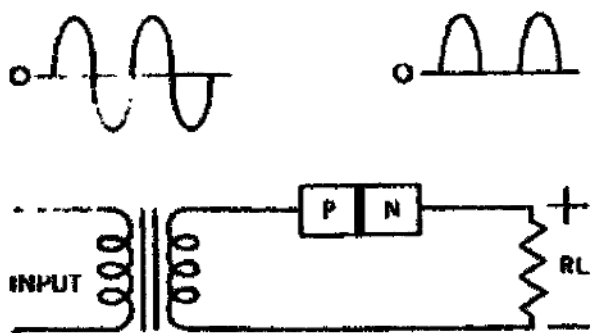

Figure 111. Half-wave rectification.
15. **Diode Action.** Combining P- and N-type germanium into a single crystal is the basis of both diode and transistor action. The P-N junction can be used as a rectifier because of its ability pass current in one direction and practically no current in the other. Applying an a.c. voltage to this junction results in a d.c. output similar to that produced by a vacuum tube diode. Figure 111 shows a semiconductor diode rectifying an alternating voltage. When this P-N junction is biased in the forward direction, current will flow across the load resistor,  $R_L$ . When the junction is biased in the reverse direction, no current will flow across the load resistor,  $R_L$ . Forward and reverse biasing is caused by the a.c. input.